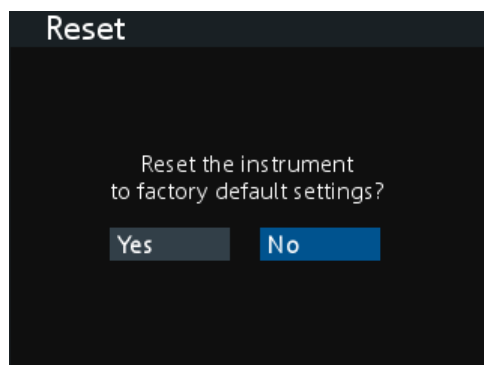

Figure 7-4: Reset dialog
- ▶ Select [Menu] > "Device" > "Reset" to reset instrument to factory default settings. The R&S NGA100 displays the "Reset" dialog. See Figure 7-4.